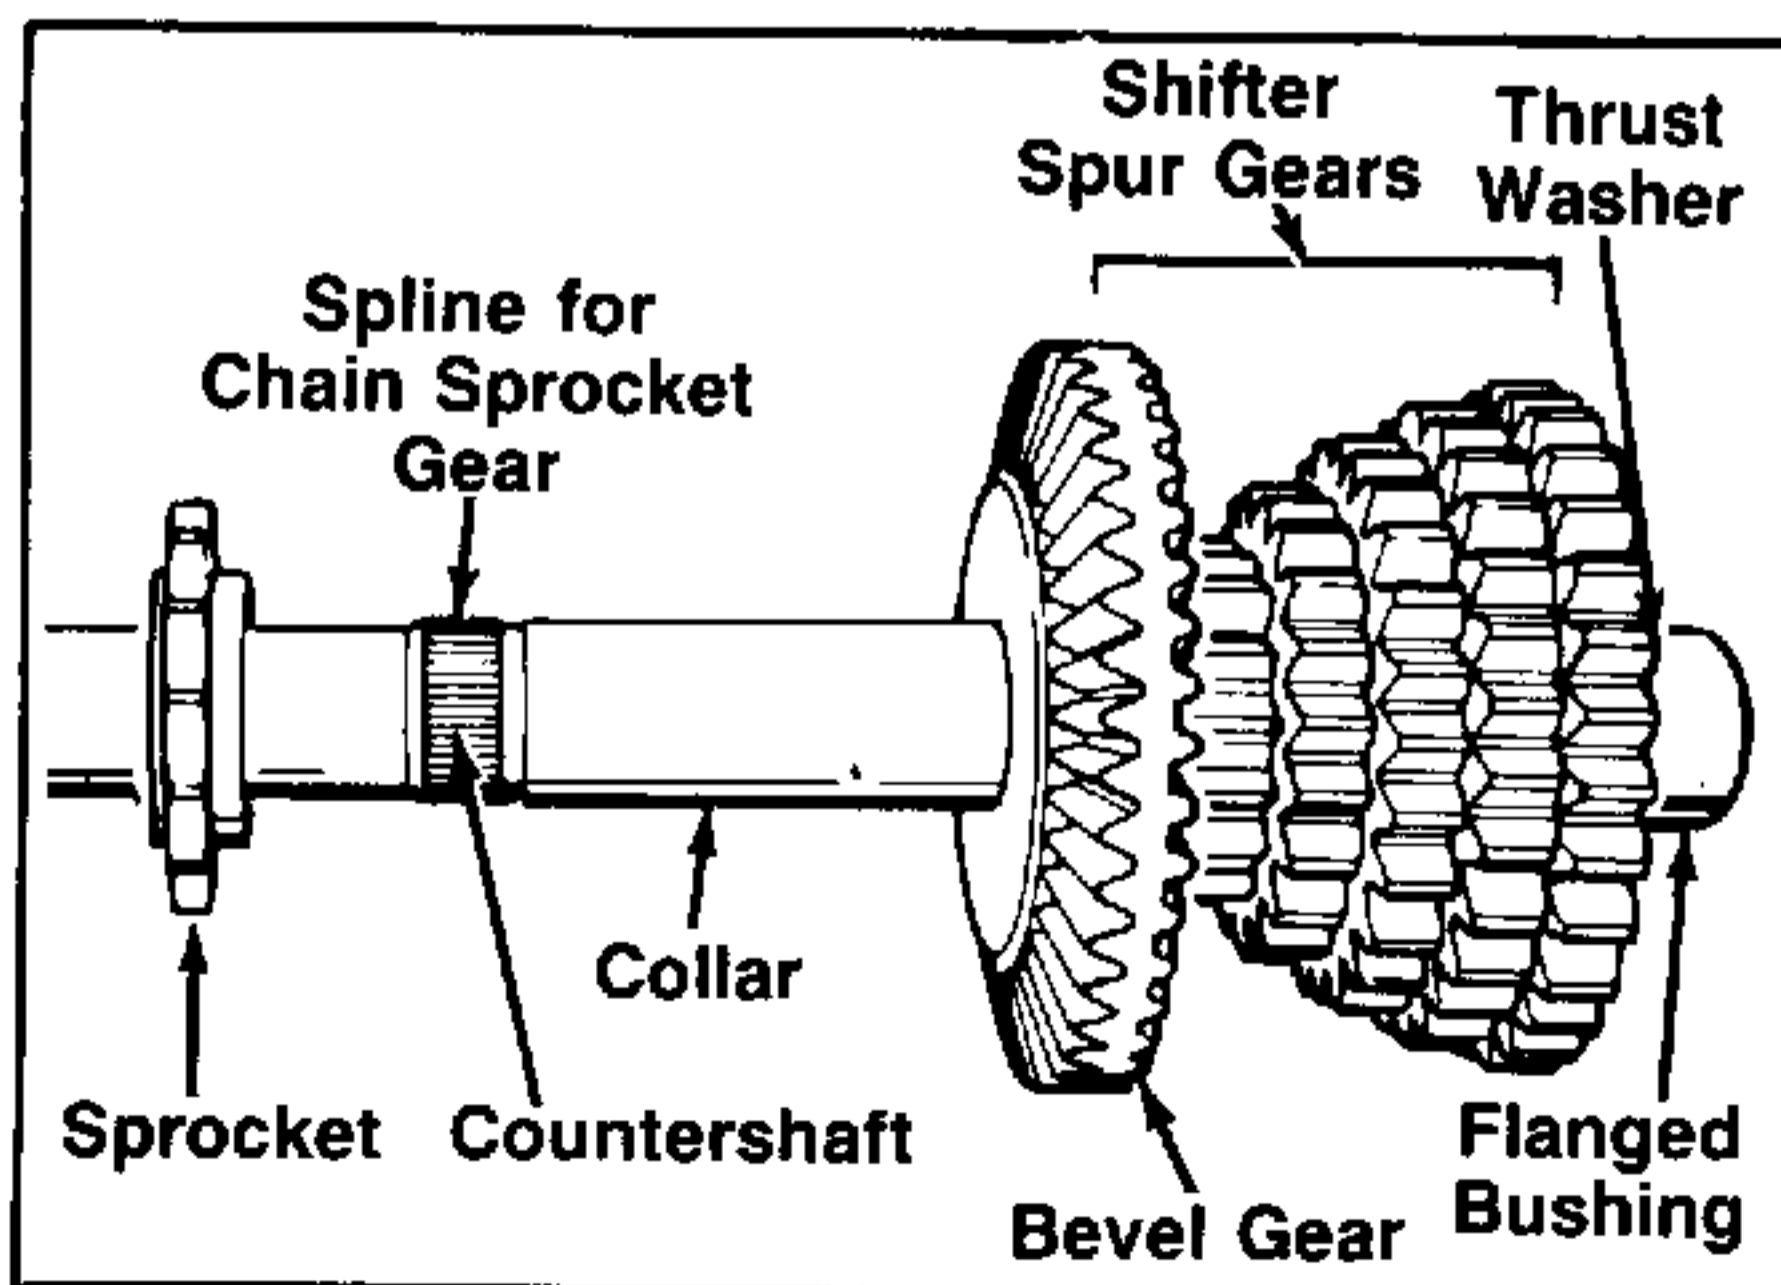

FIGURE 18.
- Remove the sprocket, bevel gear, spur gears, thrust washer, and flanged bushing. The spur gears are splined to the countershaft. See figure 18. **Note the position of the bevel gear for re-installation purposes.**